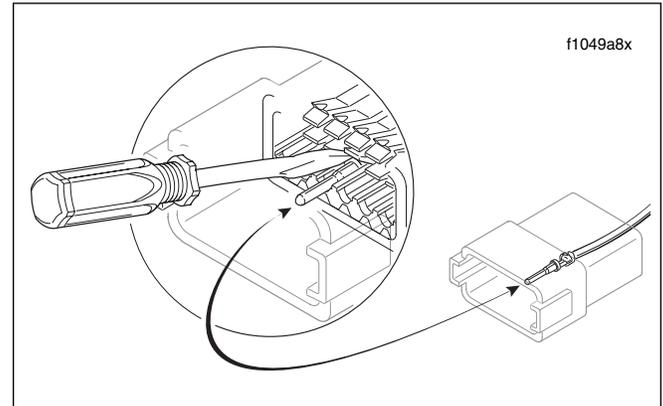

Figure 8-2. Depress Terminal Latches/Back Out Pins
2. Gently depress terminal latches inside socket housing and back out sockets through holes in rear wire seal. See Figure 8-2.